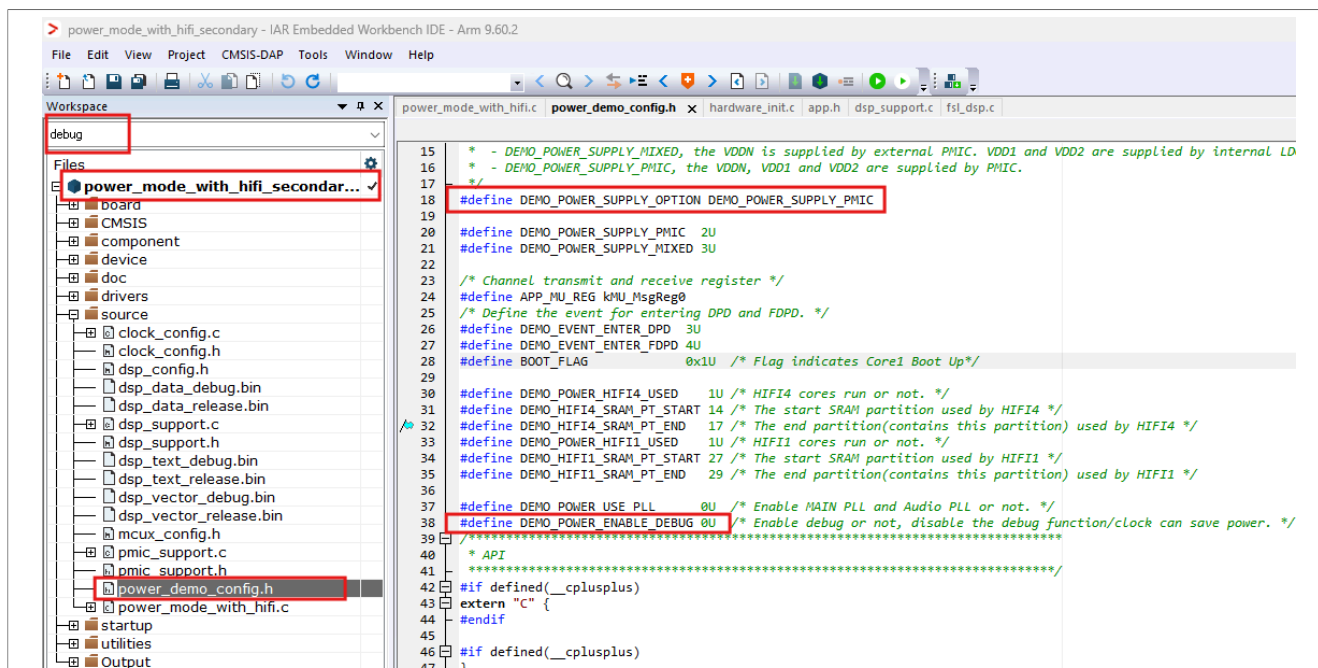

Figure 8. Setting PMIC and debug options in secondary project
6. Open the `power_mode_with_hifi` project, then access the secondary project and first select the `debug_target`. Update the `DEMO_POWER_SUPPLY_OPTION` and `DEMO_POWER_ENABLE_DEBUG` settings as shown in Figure 8. After making these changes, compile the secondary project.
- Note:** Different SDK versions can have varying default configurations, but these configurations must be updated to match the same as in Figure 8.